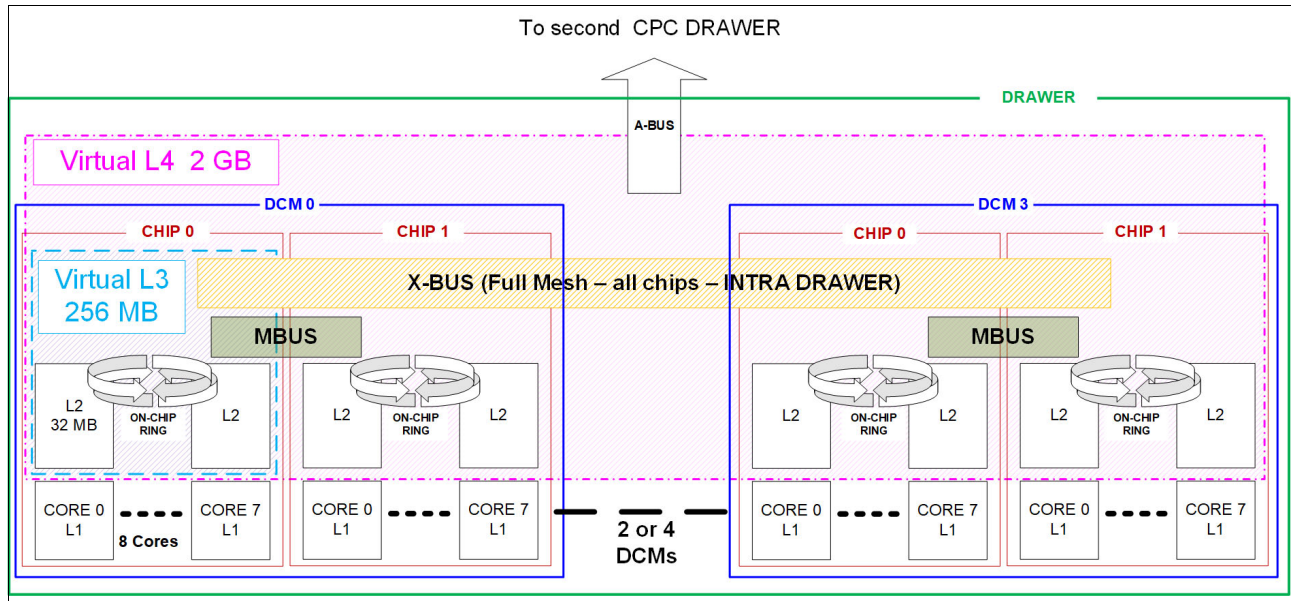

Figure 9-5 IBM z16 A02 and IBM z16 AGZ M/T 3932 fully populated CPC Drawer Cache structure
IBM z16 A02 and IBM z16 AGZ processor memory and cache structure are shown in Figure 9-5 on page 370. The physical L3 cache (on chip) and System Controller (SC) SCM (physical L4 cache for IBM z15), previously implemented in EDRAM, have been removed and replaced on IBM z16 A02 and IBM z16 AGZ virtual L3 and L4 cache structure.